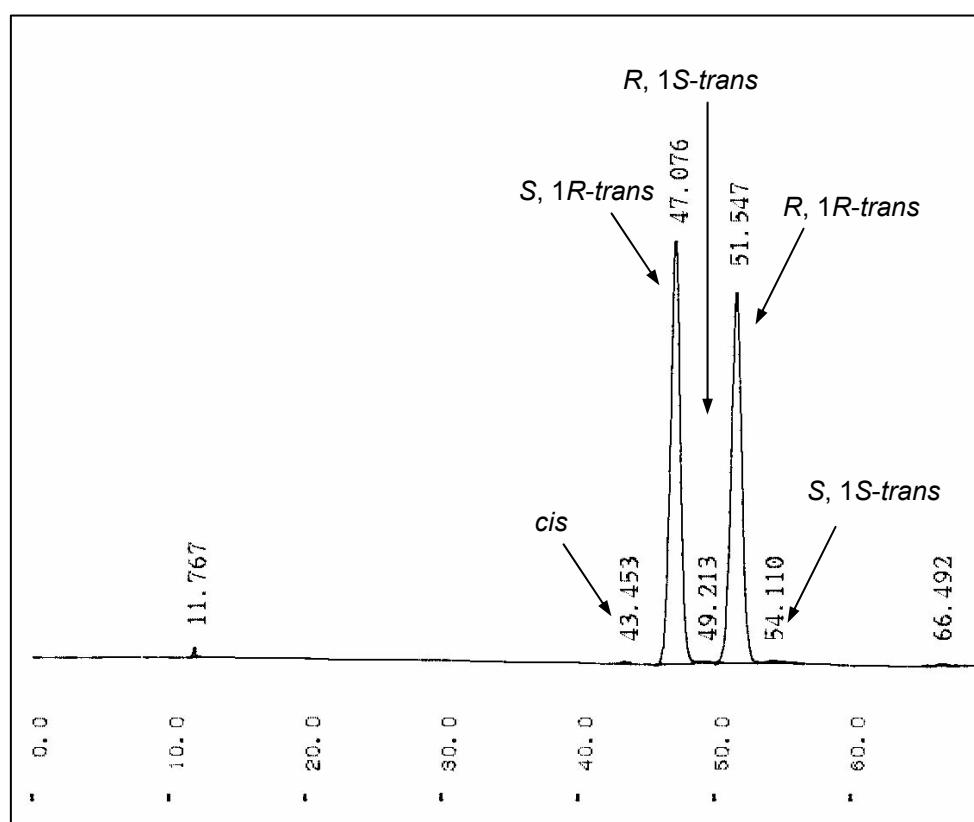

Fig. 29 HPLC chromatogram of esbiothrin working standard
2.2 HPLC. Use the HPLC method below. The retention time of esbiothrin for the sample solution should not deviate by more than 5 % from that for the esbiothrin working standard solution and the intensities of the esbiothrin isomers should give the same pattern as in the working standard solution (Fig. 29).